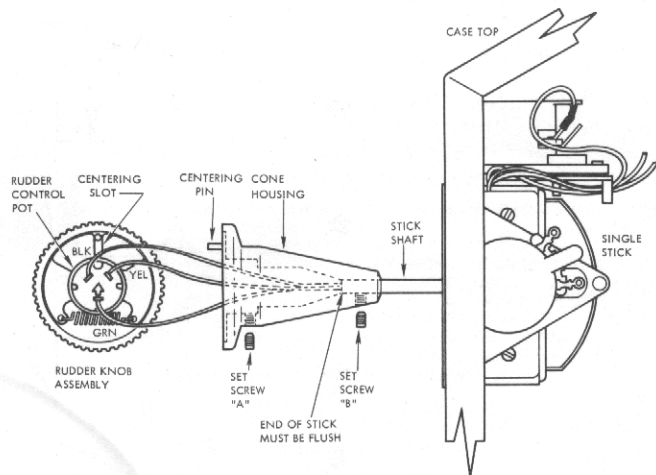

Figure 22. Installing Rudder Knob Mechanism
- 162. On single-stick models, next step is to install the rudder knob assembly on the stick shaft. To do this, first loosen set screw "A" with a 1/16" Allen wrench, then separate cone housing from rudder knob assembly. (See figure 22.)
- 164. Rotate rudder control pot until it is positioned relative to rudder knob as shown in figure 22.
- 166. Slip a 1/4" length of 3/32" shrink tubing over ends of each of these wires. Solder wires to rudder pot terminals as shown in figure 22. Slide tubing over terminals and shrink into place.